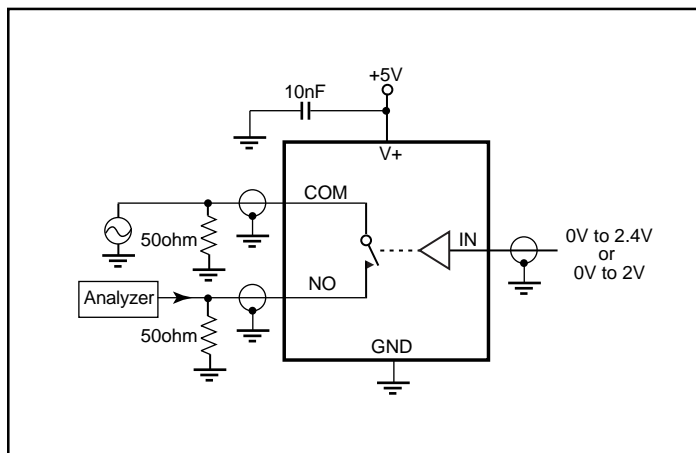

Figure 3. Off Isolation/On-Channel Bandwidth
- Off Isolation = 20log₁₀ [V_{COM} / (V_{NO} or V_{NC})]. See Figure 3.